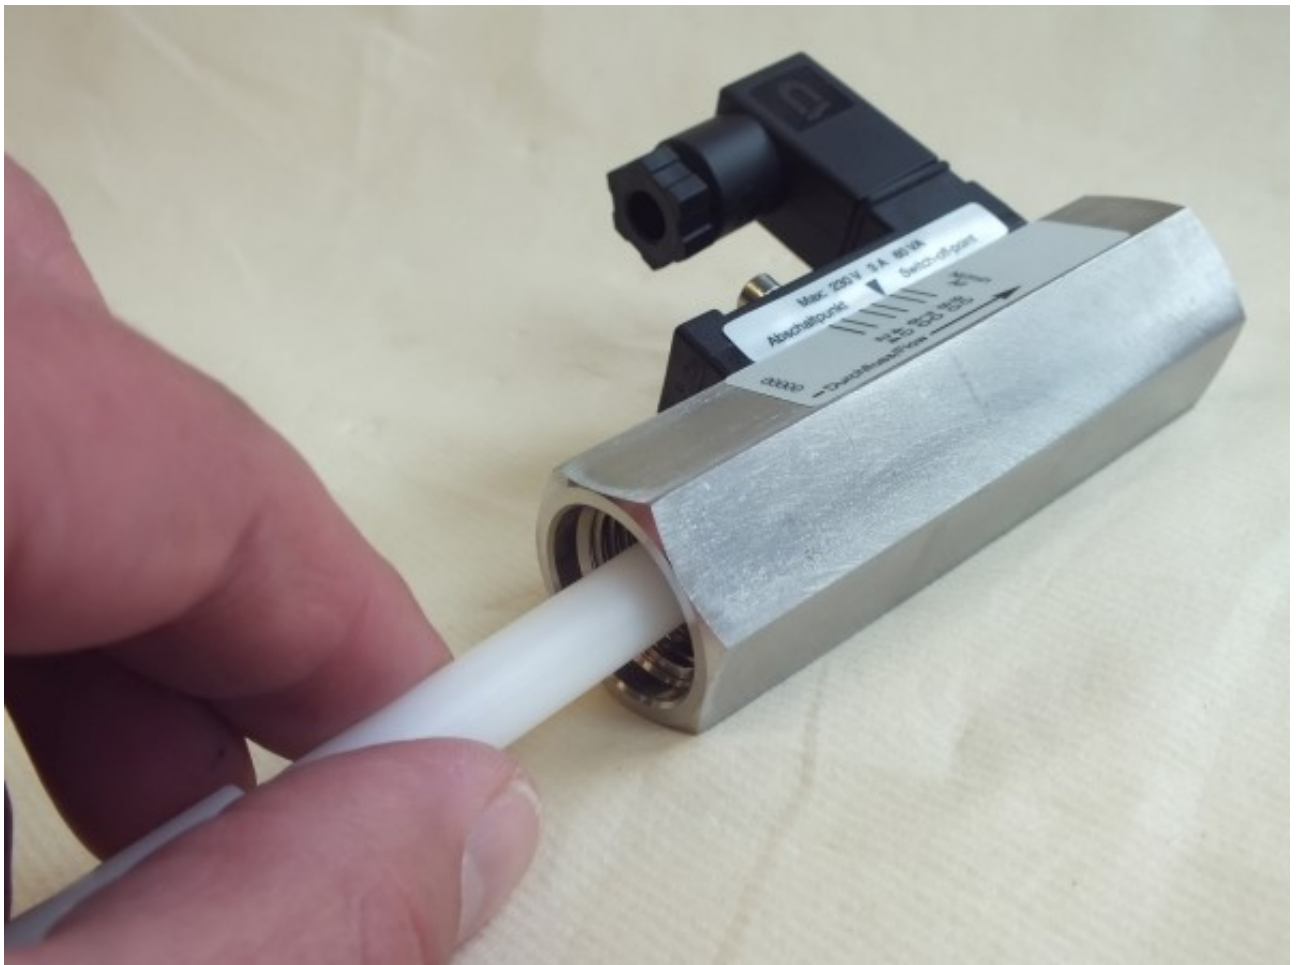

Fig. 43: Check for smooth operation
4. ➤ Check the float for ease of movement (Fig. 43) by applying light pressure with the test rod